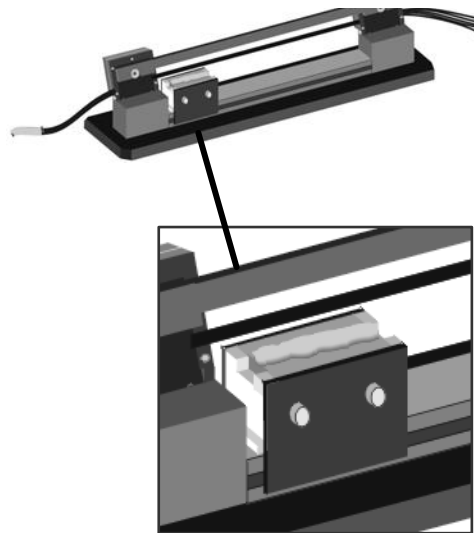

Figure 6. Applying Adhesive
5.6.3 Uncap the adhesive and apply a thin bead (1/2 X 3/16 in., 12 X 5 mm) lengthwise along the center of the lower applicator (refer to Figure 6). Once the adhesive is dispensed quickly cap it and set it aside.